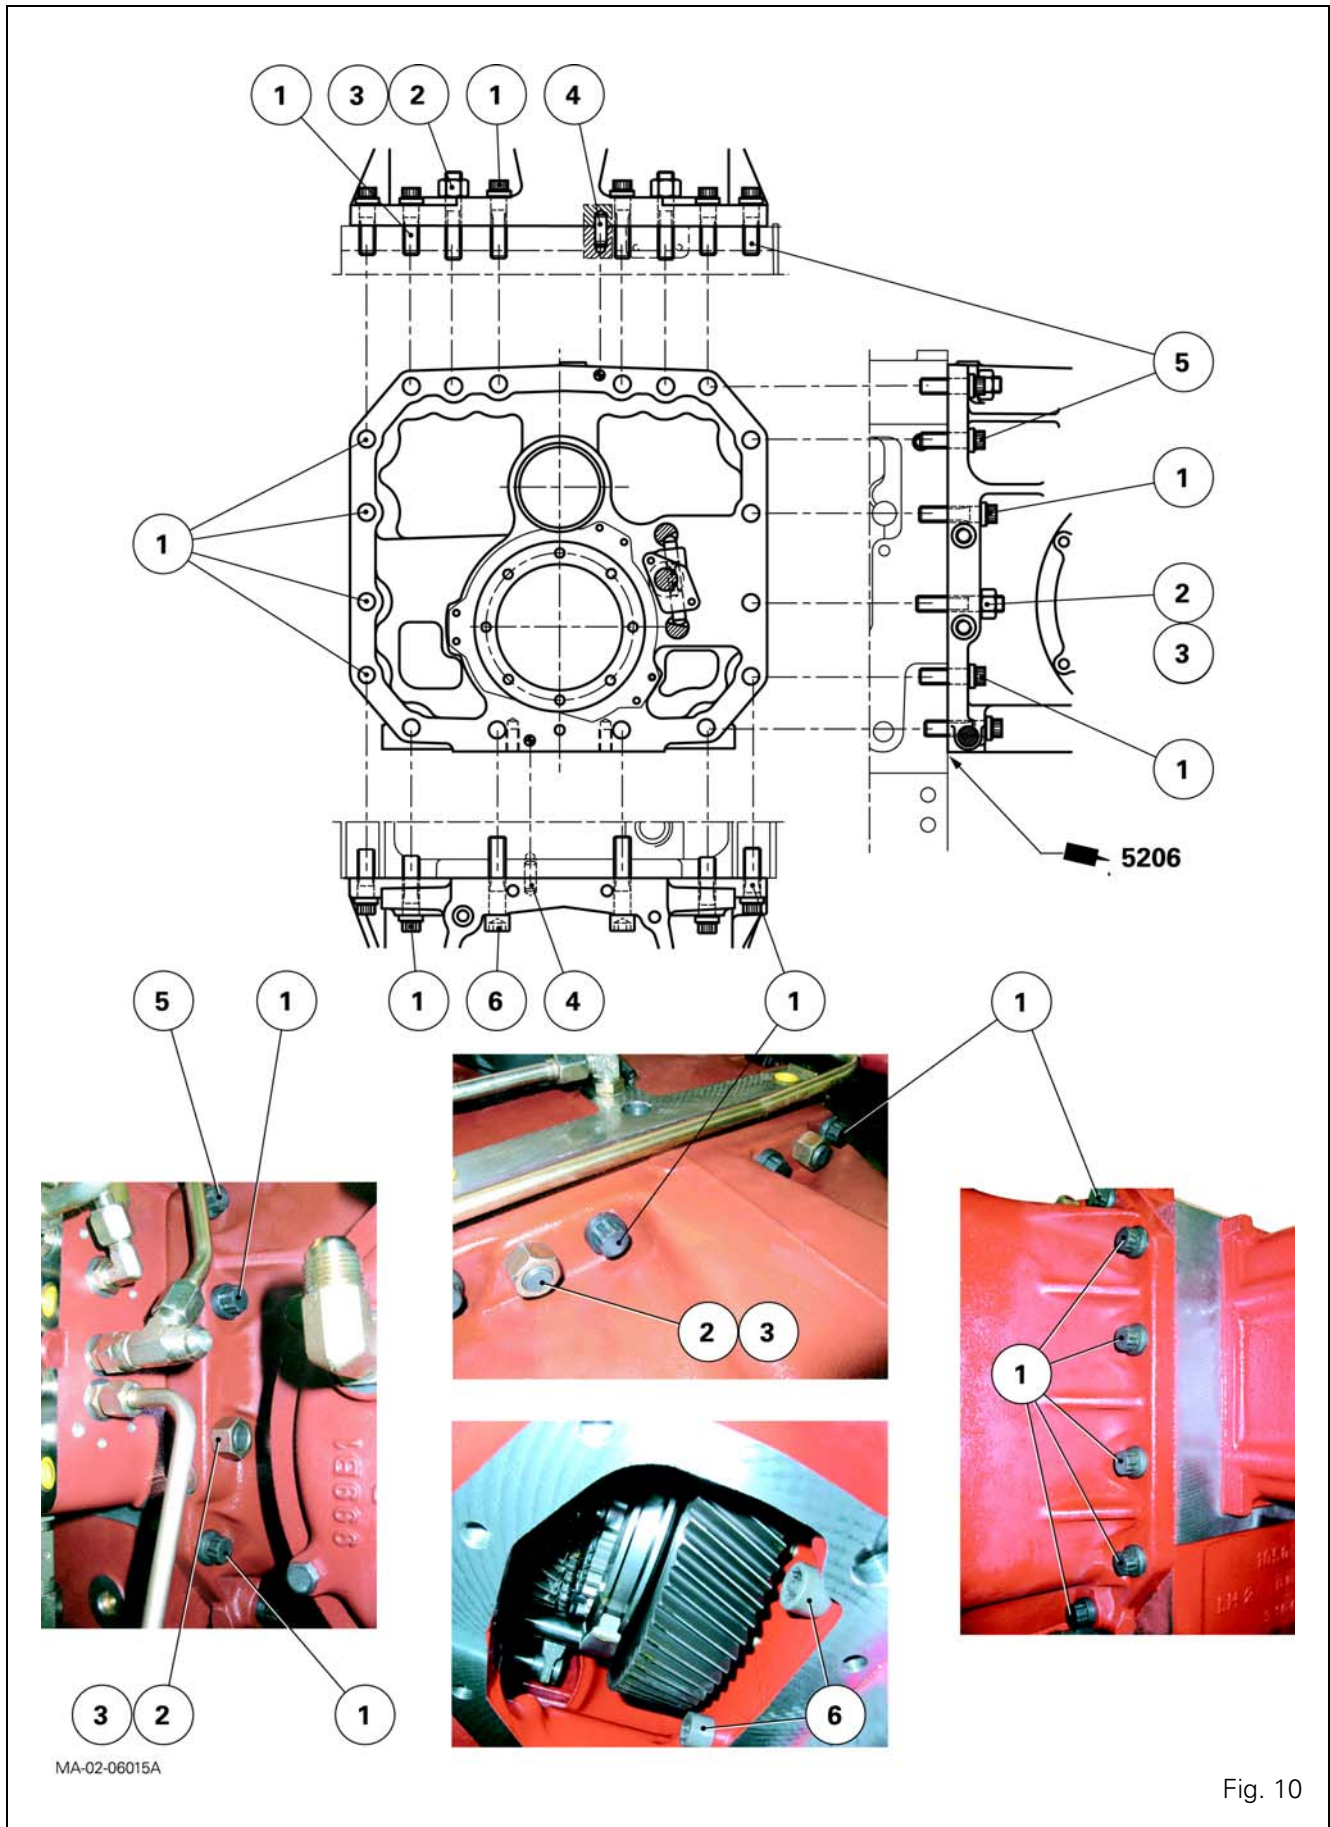

Fig. 10
55. Remove the two lower screws (6) (M16) from the 4WD cover opening (Fig. 10).
61. Remove the remaining screws and nuts attaching the centre housing to the gearbox (Fig. 10). Mark their lengths and positionings.
65. Check the presence of locating pins (4) on the gearbox (Fig. 10).
66. Check that the studs (2) are in good condition (Fig. 10) and are correctly fitted to the centre housing.
69. Smear the mating face of the centre housing with Loctite 5206 or its equivalent (Fig. 10).
73. When the elements are assembled, remove the guide studs. Position the screws according to the marks made when removed and tighten to a torque of: (Fig. 10)
- Screws (1): 240 - 320 Nm
- Screws (5): 220 - 280 Nm
- Screws (6): 240 - 320 Nm
- Nuts (3): 300 - 400 Nm